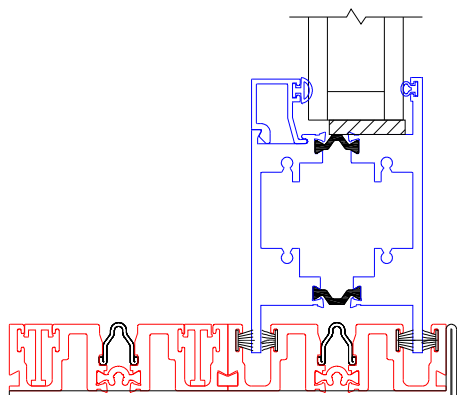
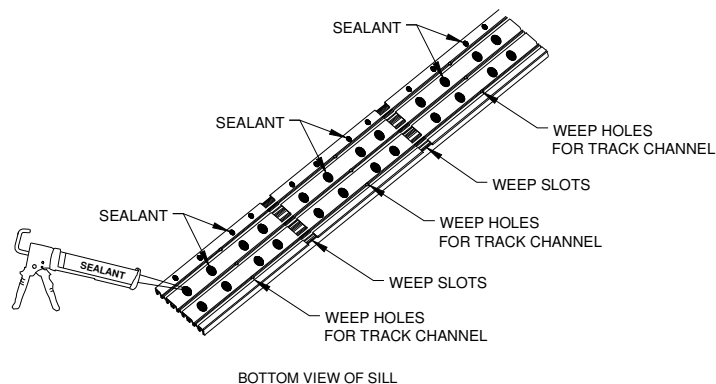

Figure D4:
Figure D5:
- Attach sill to the Sillpan with a compatible sealant (Figure D4). Do not place sealant in or next to weep slots or weep holes cut or drilled in bottom of sill (Figure D5). Sealant that blocks weep slots will prevent sill from draining.